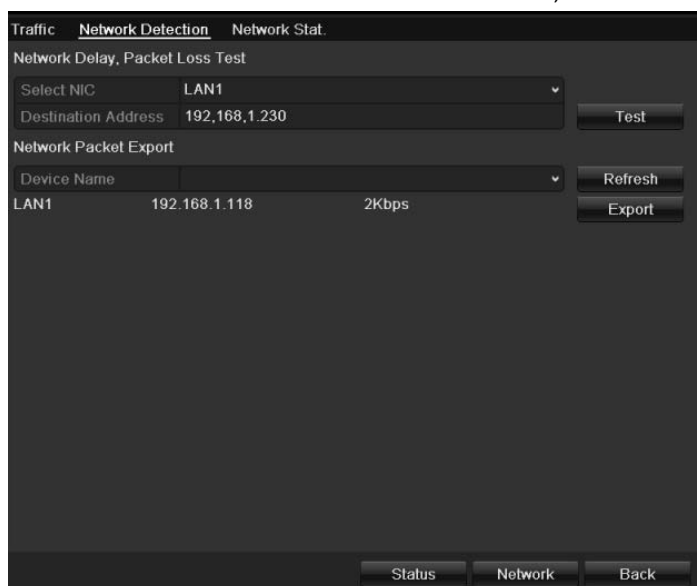

Figure 11. 21 Network Detection Interface
2. Click the **Network Detection** tab to enter the Network Detection menu, as shown in Figure 11. 21.